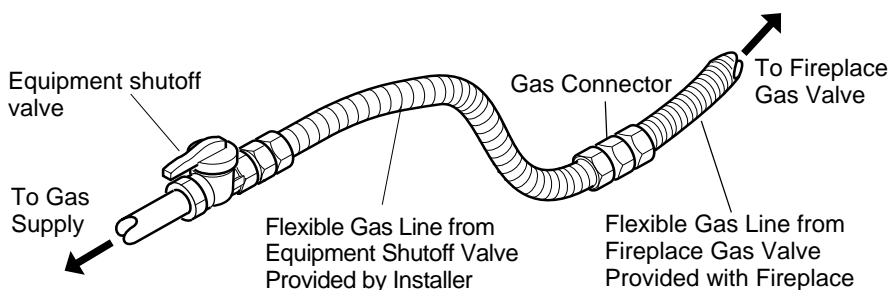

Figure 25 - Attaching Flexible Gas Lines Together
NOTICE: Most building codes do not permit concealed gas connections. A flexible gas line (see Figure 25) is provided to allow accessibility from the fireplace. The flexible gas supply line connection to the equipment shutoff valve should be accessible.
4. Apply pipe joint sealant lightly to male threads of gas connector attached to flexible gas line (see Figure 25). Connect flexible gas line to flexible gas line attached to gas valve of fireplace (see Figure 25).